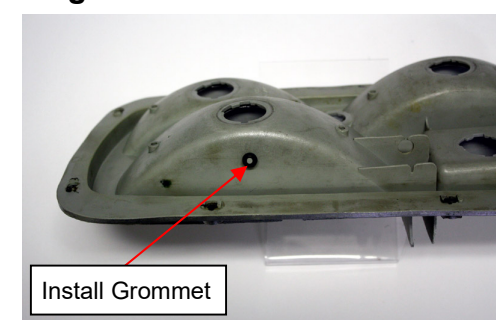

Figure 5
- 3.5. OPTIONAL: If sequential patterns are desired, drill 1 – 3/16" diameter hole in the middle of bottom surface of the lower outboard lighting chamber of the back housing. (See Figure 5) The exact location of this hole is not critical. Then install provided rubber grommet into the drilled hole. One method to simplify installation is to pinch grommet, insert protruding edge into the hole, then use a small flat blade screwdriver to push/work the remaining edge through the hole.